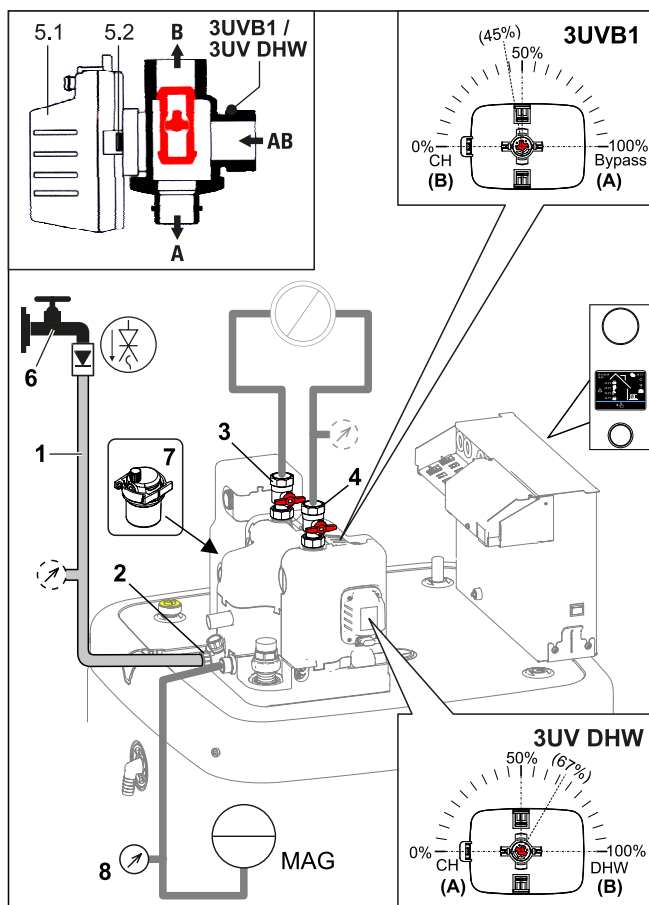

Fig. 3-49 Filling the heating circuit
- 1 Connect the filling hose (Fig. 3-49, item 1) with the non-return valve (1/2") and an external pressure gauge (on the building side) to the combined filling and draining valve (Fig. 3-49, item 2) and secure it against slipping off with a hose clamp.
- 3 Open the water tap (Fig. 3-49, item 4) on the feed pipe.
- 4 Open the combined filling and draining valve (Fig. 3-49, item 2) and monitor the pressure gauge.
- 7 Close the water tap (Fig. 3-49, item 4). The combined filling and draining valve must remain open in order to read off the water pressure on the external pressure gauge.
- 10 Constantly check the water pressure on the external pressure gauge during hot water heating mode, and top up water via the combined filling and draining valve (Fig. 3-49, item 2) if necessary.
- 12 Again check the water pressure on the external pressure gauge, and top up water via the combined filling and draining valve (Fig. 3-49, item 2) if necessary.
- 13 Disconnect the filling hose (Fig. 3-49, item 1) with non-return valve from the combined filling and draining valve (Fig. 3-49, item 2).